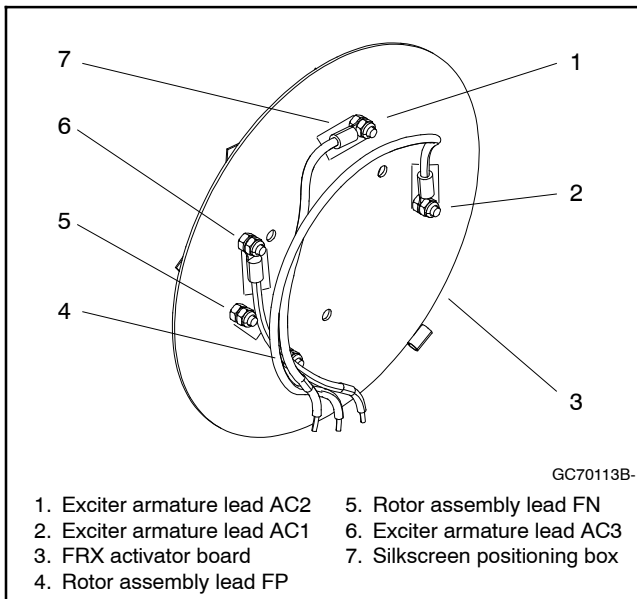

Figure 11-26 FRX Activator Board
28. Attach rotor assembly leads (FN and FP) to FRX activator board using elastic stop nuts. See Figure 11-26. Position leads as shown on silkscreen box and torque to specifications.
29. Attach exciter armature leads (AC1, AC2, and AC3) to FRX activator board using elastic stop nuts. Position leads as shown on silkscreen box and torque to specifications. See Figure 11-26.